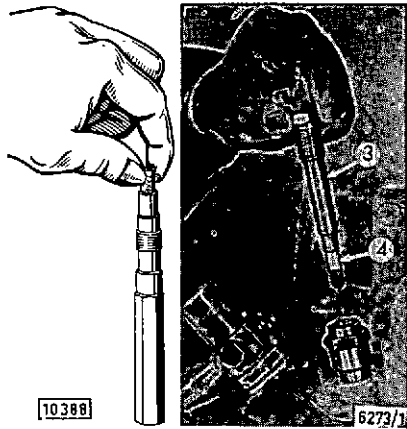

Fig. 8
3. Unscrew ignition paper holder 3 (Fig. 8) from cylinder head, insert the soft, non impregnated end of a dry self-igniting paper firmly in the holder and refit the latter. The ignition paper fits tight enough when the weight of the holder can be held by the salient paper end.